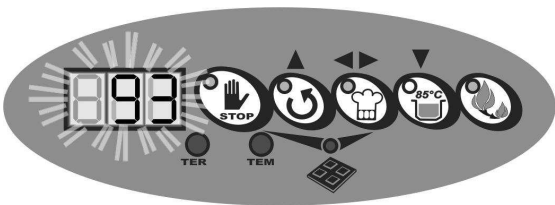

Fig.4
- Press the SLOW FLAME key to enable the reduction function of the bain-marie fluid temperature below 100°C (Fig. 4). The key LED switches on to confirm the correct programming.